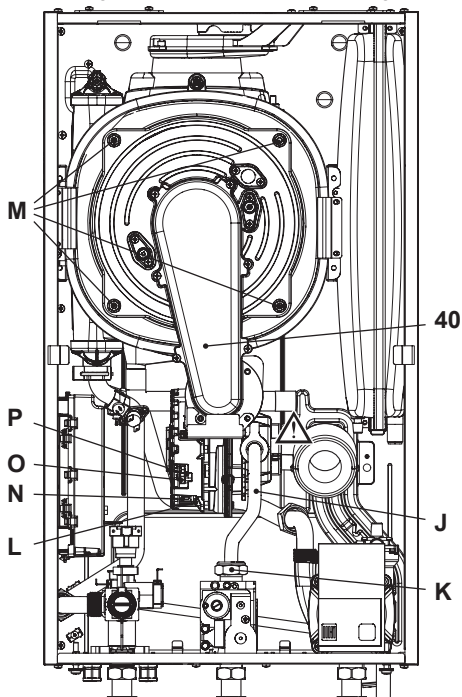

Fig. 10.13
Removing the fan burner unit 40 in Fig. 10.13.
- Insert a flat screwdriver in the connector recess **L** and lever towards the bottom, disconnect the connector at the same time **N** by pulling towards the front **N** (Fig. 10.13).
- Disconnect the fan connector **O** by pressing the plastic hook **P** positioned at the bottom part of the connector (Fig. 10.13).
- Unscrew screws **M** and remove the fan burner unit 40 (Fig. 10.13)